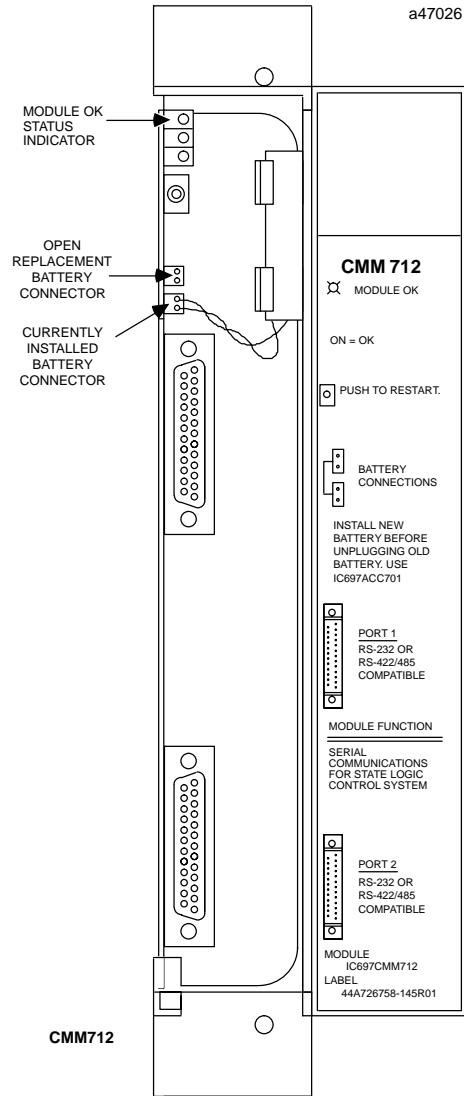

Figure 2. Serial Communications Module User Details
- Connect the battery to either of the battery connectors on the module. (See Figure 2)